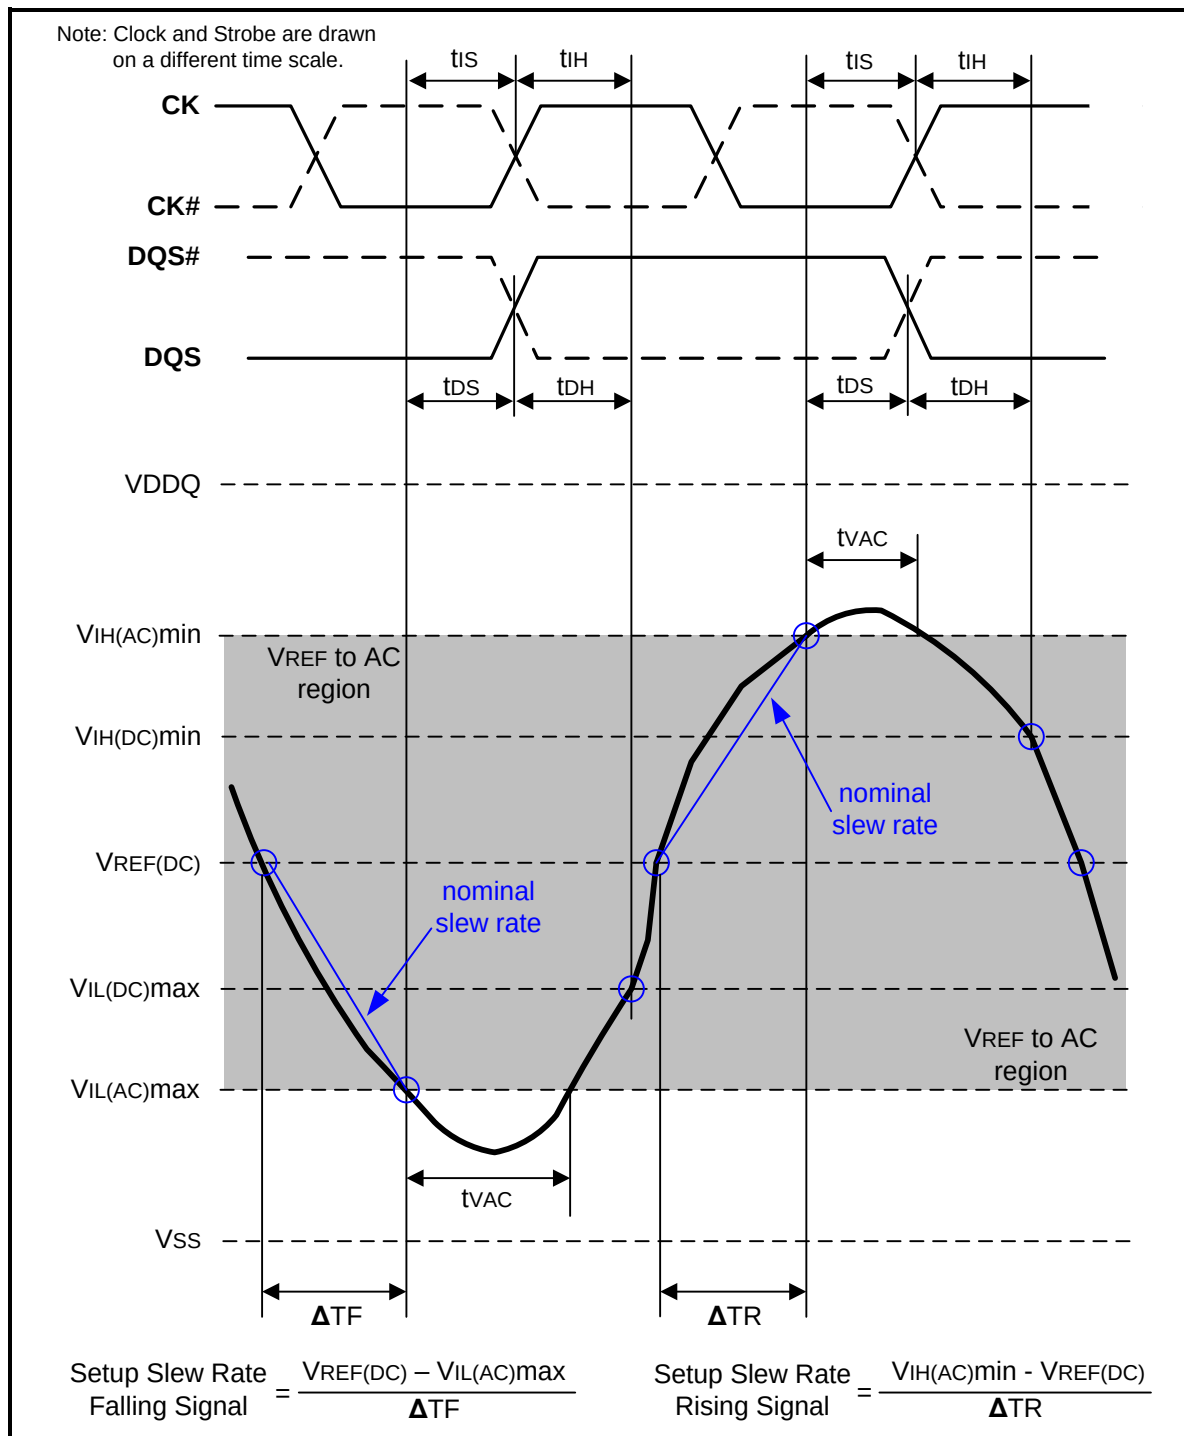
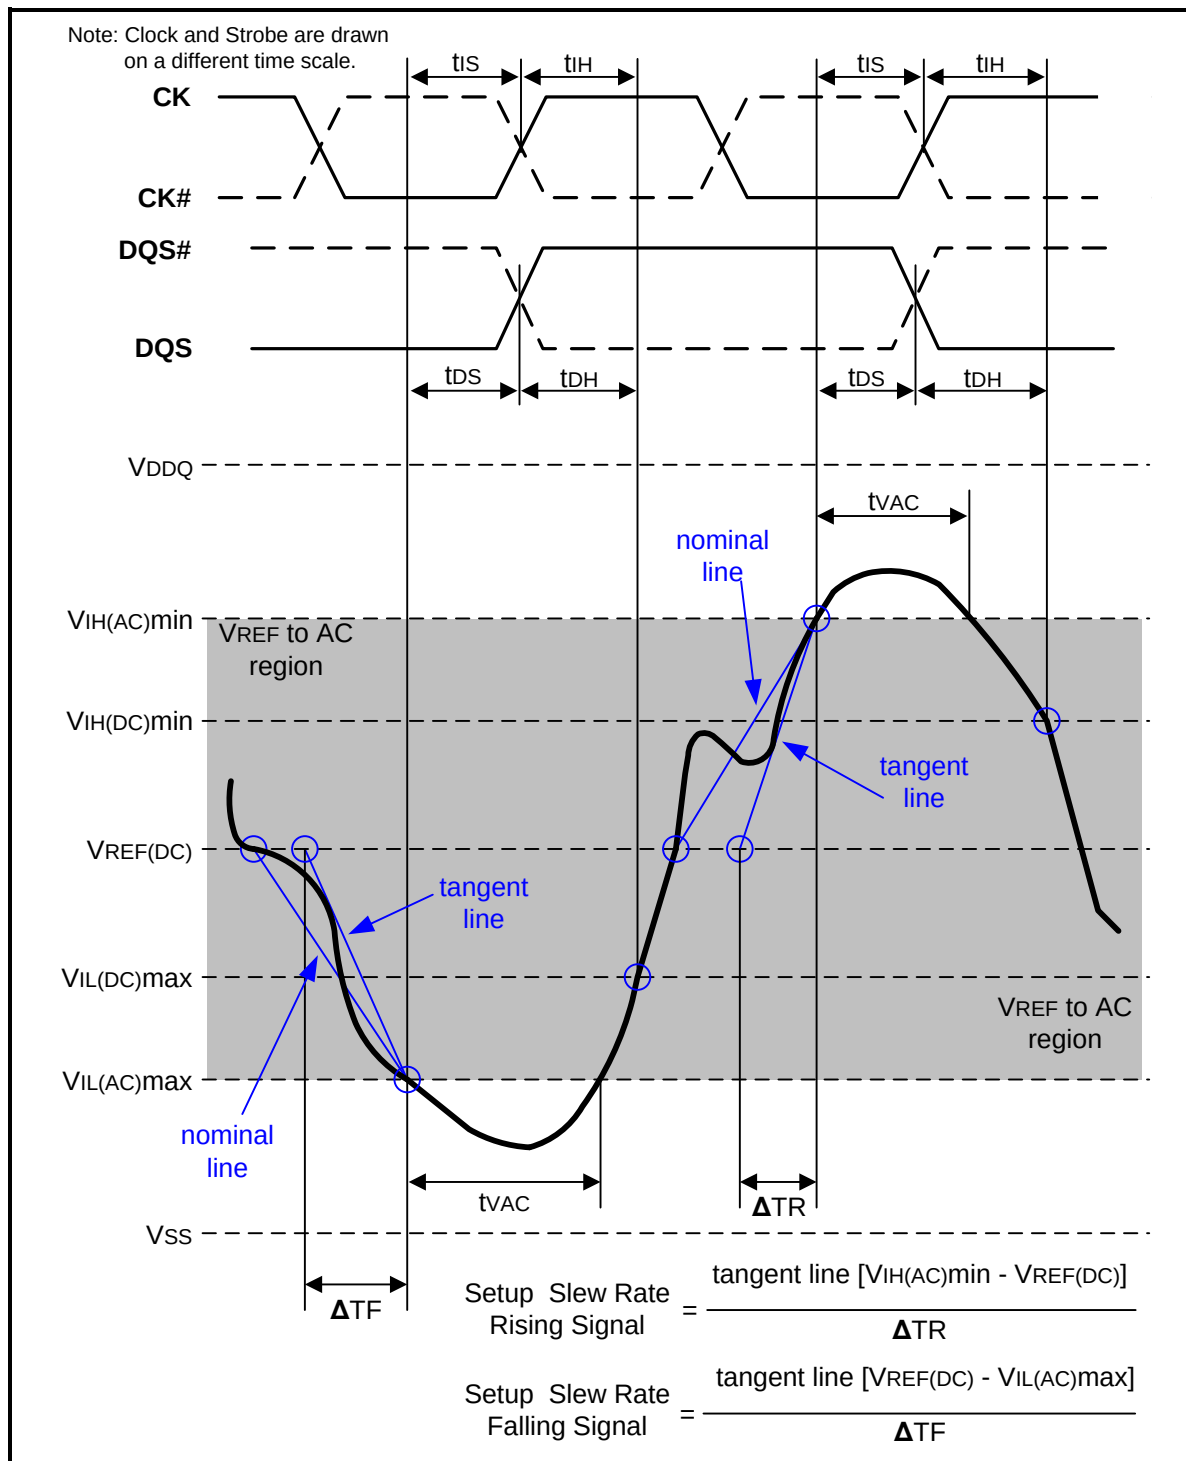

Figure 107 – Illustration of nominal slew rate and $tvAC$ for setup time t_{DS} (for DQ with respect to strobe) and t_{IS} (for ADD/CMD with respect to clock)
Figure 109 – Illustration of tangent line for setup time t_{DS} (for DQ with respect to strobe) and t_{IS} (for ADD/CMD with respect to clock)
Setup (t_{IS}) nominal slew rate for a rising signal is defined as the slew rate between the last crossing of $V_{REF}(\text{DC})$ and the first crossing of $V_{IH}(\text{AC})_{\text{min}}$. Setup (t_{IS}) nominal slew rate for a falling signal is defined as the slew rate between the last crossing of $V_{REF}(\text{DC})$ and the first crossing of $V_{IL}(\text{AC})_{\text{max}}$. If the actual signal is always earlier than the nominal slew rate line between shaded ' $V_{REF}(\text{DC})$ to AC region', use nominal slew rate for derating value (see Figure 107). If the actual signal is later than the nominal slew rate line anywhere between shaded ' $V_{REF}(\text{DC})$ to AC region', the slew rate of a tangent line to the actual signal from the AC level to $V_{REF}(\text{DC})$ level is used for derating value (see Figure 109).
Setup (tDS) nominal slew rate for a rising signal is defined as the slew rate between the last crossing of VREF(DC) and the first crossing of VIH(AC)min. Setup (tDS) nominal slew rate for a falling signal is defined as the slew rate between the last crossing of VREF(DC) and the first crossing of VIL(AC)max (see Figure 107). If the actual signal is always earlier than the nominal slew rate line between shaded 'VREF(DC) to AC region', use nominal slew rate for derating value. If the actual signal is later than the nominal slew rate line anywhere between shaded 'VREF(DC) to AC region', the slew rate of a tangent line to the actual signal from the AC level to VREF(DC) level is used for derating value (see Figure 109).